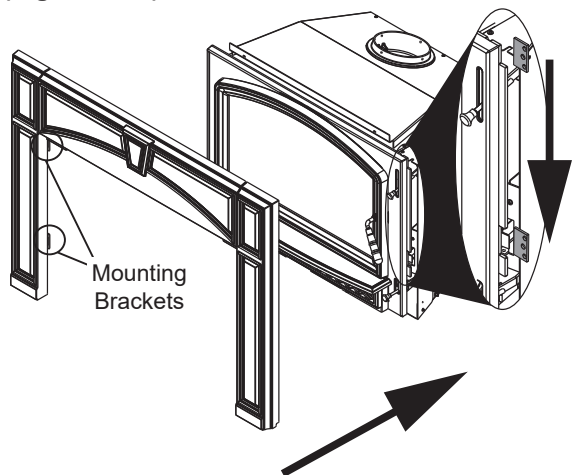

Figure 20.2
5. Slide cast trim assembly over the top of the appliance and set in position by guiding the right and left cast side bracket through the slots on the side of the appliance. Gently drop the assembly down into place (**Figure 20.2**).